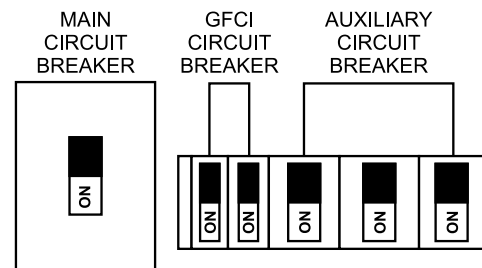

Figure 50. Main, Aux. and GFCI Circuit Breakers (ON)
15. Place the **main, GFCI, and aux.** circuit breakers in the **ON** position (Figure 50).